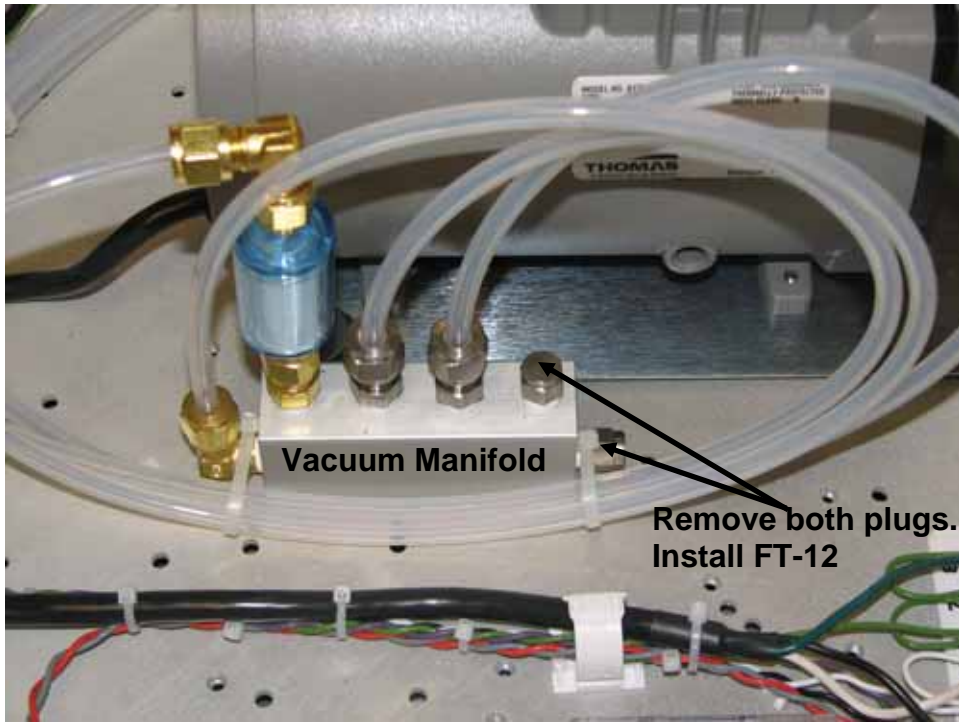

Figure 1
2. Locate the vacuum manifold (See figure 1). Using your 7/16" wrench, remove both of the plugs on the manifold. Clean the threads, using your dental scribe or other tool, of all left over Teflon tape.